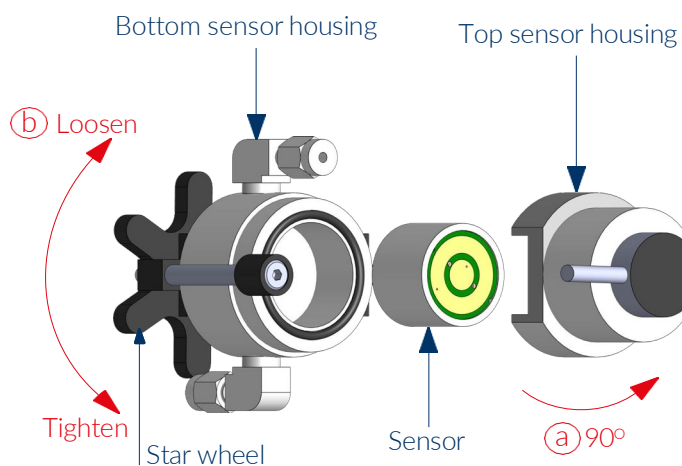

Figure 4. Installing and uninstalling your sensor
3. Open the sensor housing (refer to Figure 4 below for guidance).
8. Secure it with the star wheel at the bottom of the housing assembly (refer to 'b' in Figure 4 on page 11).